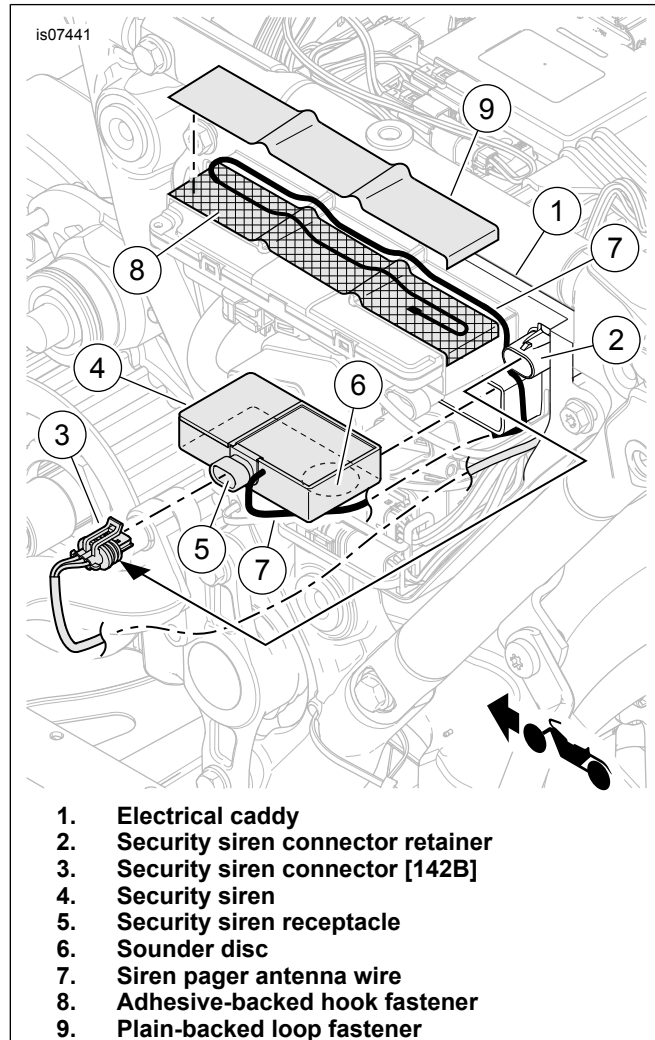

Figure 17. Siren Installation (2014-Later FL Touring Models)
2. See Figure 17. Remove the security siren connector [142B] (3) from the retainer (2) on the electrical caddy (1). Insert security siren connector [142B] into the security siren receptacle (5) until the connector latches securely.
3. Slide the siren (4) into the pocket in the electrical caddy so the sounder disc (6) is toward the rear, facing down.
5. Remove the protective tape from the adhesive backing of the hook fastener (8). Attach the fastener to the top of the caddy, flush with the forward and outboard edges. Fold the excess around the rear edge of the caddy.
6. Route the siren pager antenna wire (7):
- b. around the now-empty siren connector retainer (2) and